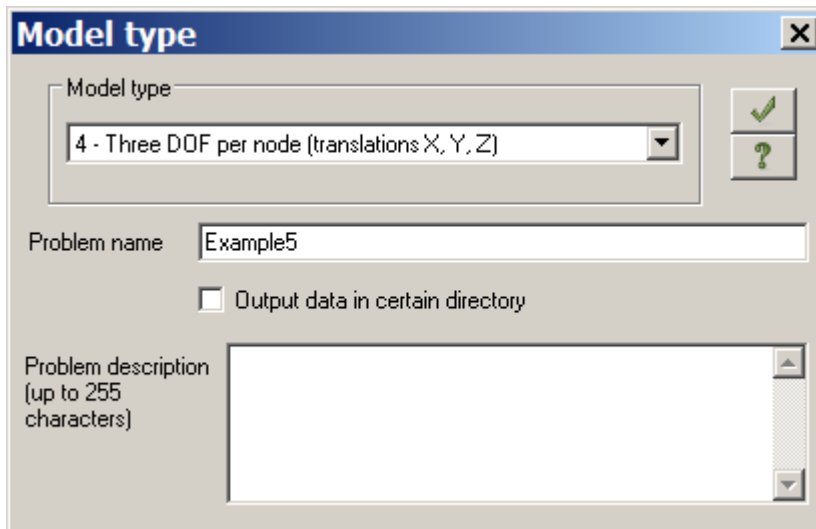

Figure 5.2 **Model type** dialog box
- ⇒ In the **Model type** dialog box (see Fig.5.2) specify the following data: